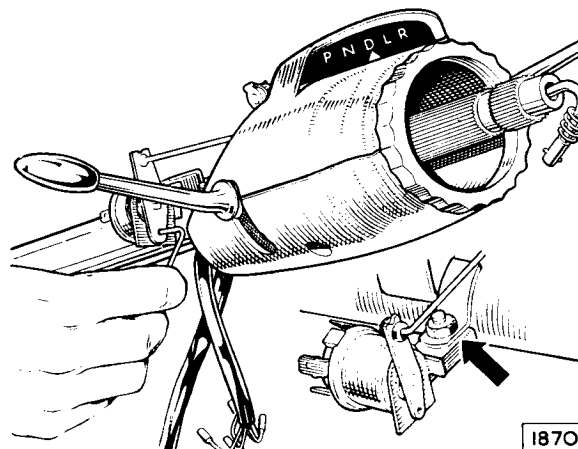

Fig. 12 Setting the starter/reverse inhibitor switch.
- (d) Place a piece of wire through the two holes and tighten the nut securing the switch to the upper steering column (see fig. 12).